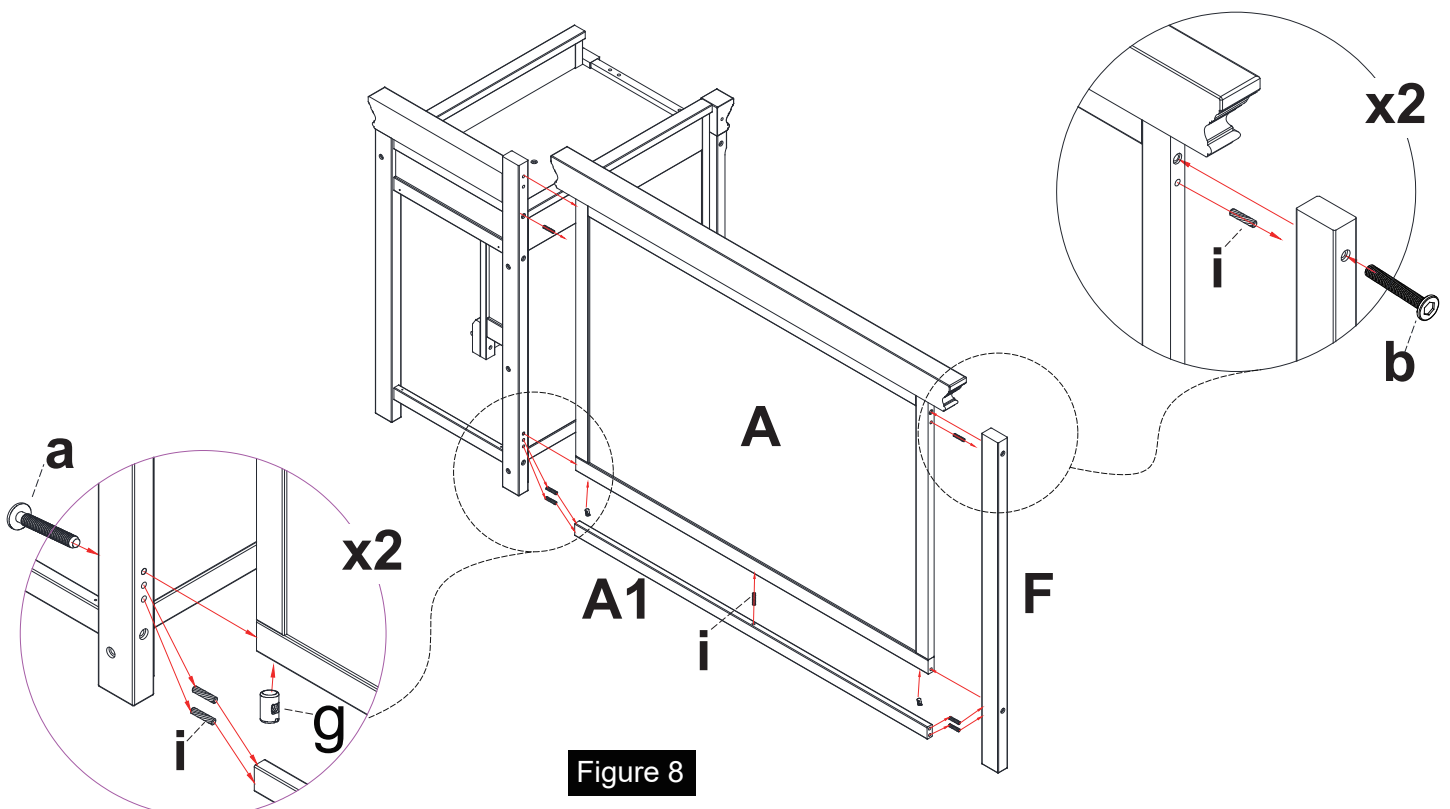

Figure 8
STEP 8 Back Panel & Back Post - L Assembly as shown on Figure 8.